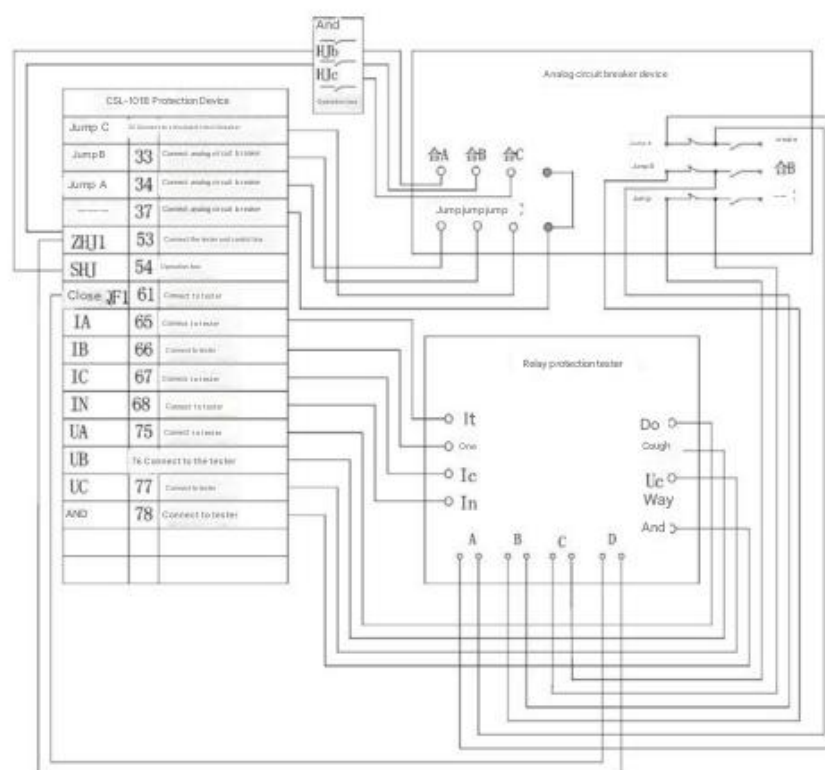

Figure 4
1. Test wiring HZMN-D3 Simulated circuit breaker with relay protection tester to test four sides CSL-101B The distance protection system of the entire set and the failure protection of the protection device are shown in the figure.4.